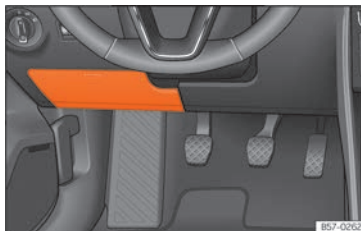

Fig. 105 On the dashboard on the driver side (left guide): lid of the fuse box.
- **Open:** fold the cover down »» Fig. 105.